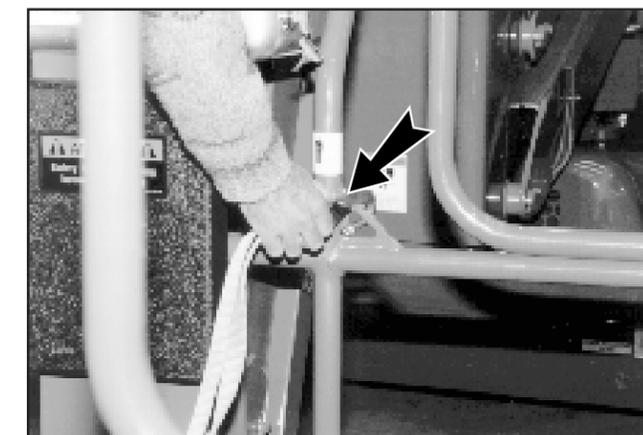

Figure 3: Typical Fall Restraint Anchorage Point
**Always** wear an approved fall restraint properly attached to designated platform anchorage point when driving or elevating the machine (see figure 3).